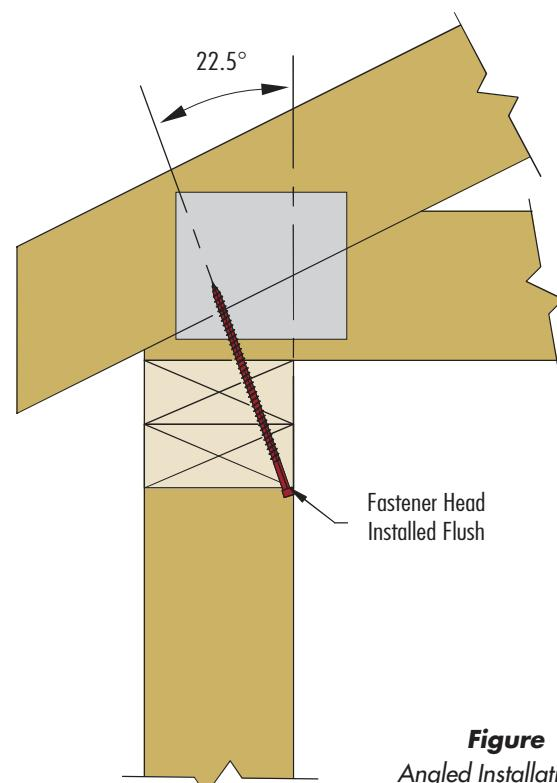

Figure 1a
- Fastener installed through double top plate or beam with head driven within 1/4" of flush as shown in Figures 1a-1d (see attached referenced drawings showing 22 deg, 22 deg w/ blocking, 90 deg, and header beam to truss)